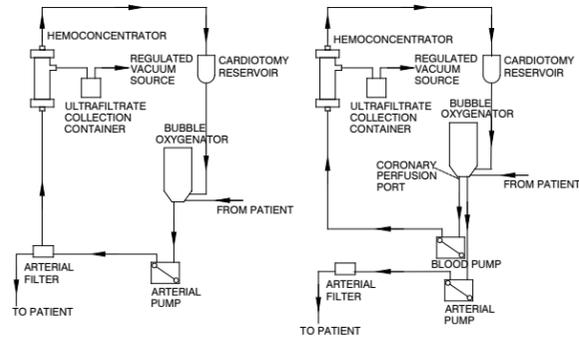

Figure 3: Suggested method(s) for using the Fresenius F Series Hemoconcentrators with a bubble oxygenator system.
4. Connect the inlet blood tubing in the extracorporeal circuit that will provide blood flow not exceeding 300 ml/min (HF3000 and HF3000TSB) or 400 ml/min (HF5000 and HF5000TSB). (Refer to Figures 3 and 4). If a male luer lock fitting is required, attach it in the same manner recommended above.